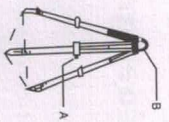

Fig. 1
- (1) Adjust the tripod to horizontal level, tighten screw A (Fig. 1).